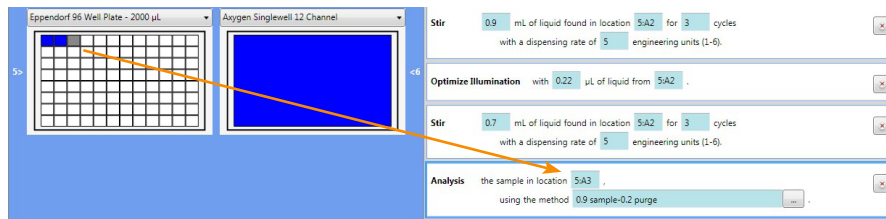

Figure 8-21: Select and drag a sample well to move it to the batch.
- To quickly define the sample well used for a step, simply select the well on the plate map and drag it to the batch location (Figure 8-21). You can also use this step for defining the buffer reservoirs to use for flush steps.